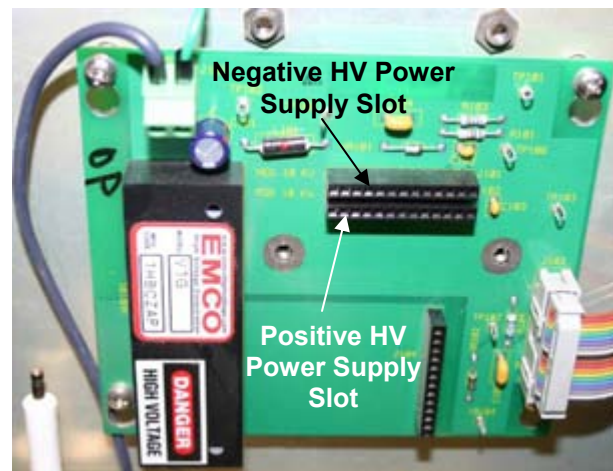

Figure 5. Electrical Board after Power Supply is removed
4. Grab the sides of the HV power supply body and pull it carefully away from the electrical board until it is fully removed (Figure 5).